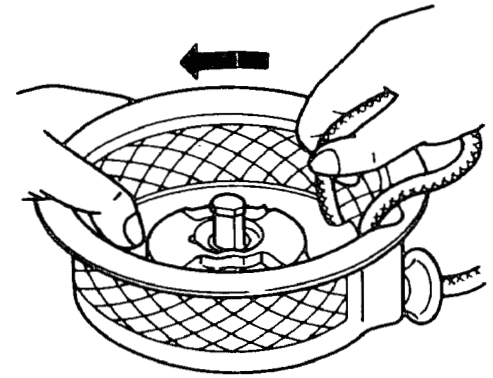

FIG. 84
- (3) Before putting the reel in the starter case, wind the starter rope in the arrowhead direction as shown in Fig. 84, and at 2.5 windings take out the rope from the reel notch. Set the reel hook to the inner end of the spring, and put the reel in the starter case. (At this time, confirm that the reel hook is duly set to the spring.)
Then, hold the starter rope as shown in Fig.84, and turn the reel 4 times in the arrowhead direction. When wound up, firmly press the reel not to allow reverse turn, and pull the starting knob. Then, pull out from the starter case the starter rope utilized for winding, and slowly return the starting knob.